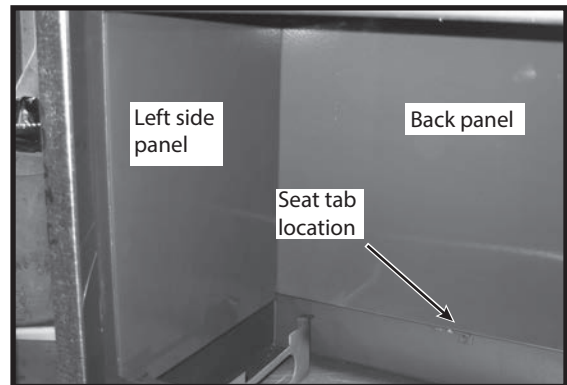

Figure 47: Left seat tab location.
2. While supporting the back panel insert the left side panel (Figure 47) into the firebox. Position the top of the panel against the side of the unit, inserting the top panel tab into the slot at the top of the side panel and slide the bottom into position.